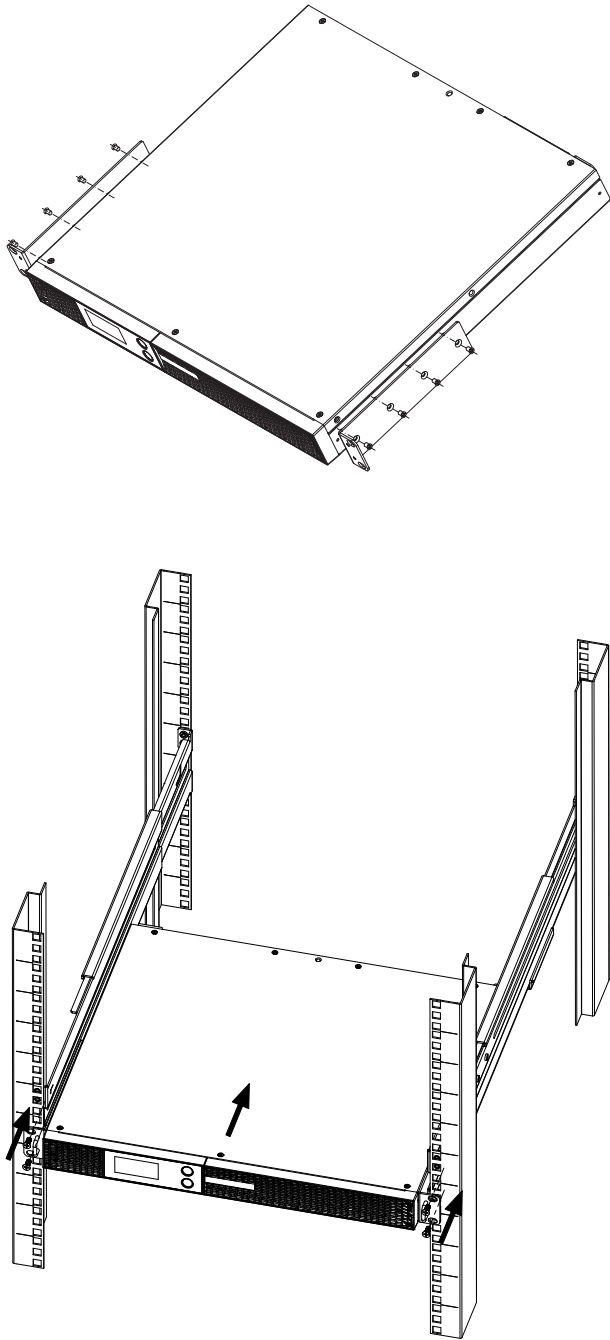

Fig. 7. SPS ADVANCE R mounting in a 19" cabinet.
- Proceed as follows (see Fig. 7):